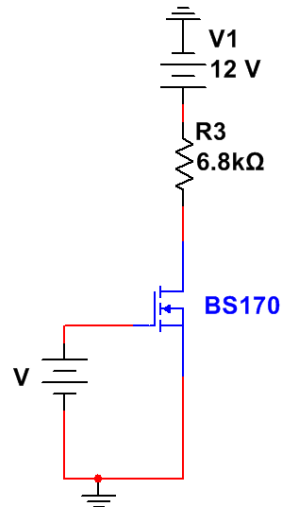

Fig 2: Pspice circuit diagram
1. Create the circuit shown in figure 2.